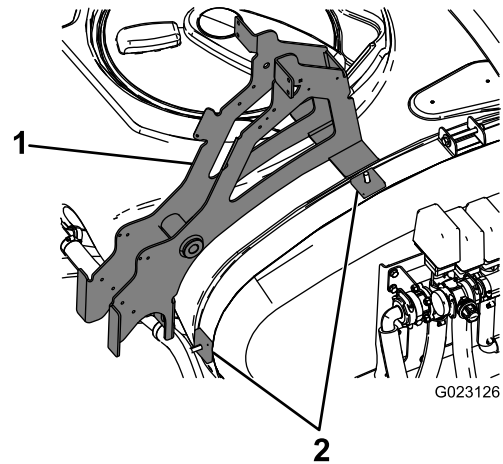

Figure 3
5. Mount 2 square spacers over the previously installed carriage bolts (Figure 3).
6. Install the main support frame over the square spacers and carriage bolts as shown in Figure 3.